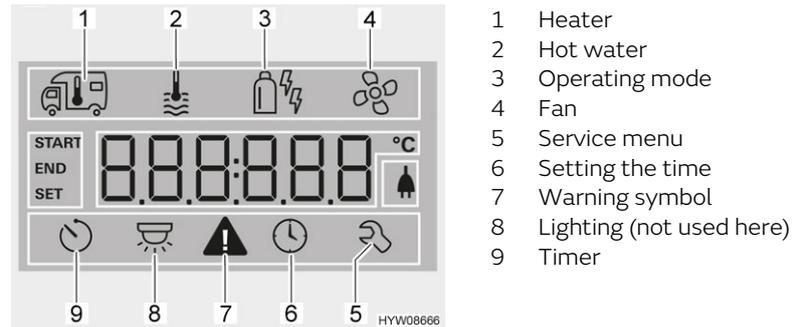

Fig. 213 Display (operating unit)
- Turn rotary push button (Fig. 212,6) until the heater menu symbol (Fig. 213,1) flashes.
- Turn rotary push button (Fig. 212,6) until the hot water menu symbol (Fig. 213,2) flashes.
- Turn rotary push button (Fig. 212,6) until the menu symbol operating mode (Fig. 213,3) flashes.
- Turn rotary push button (Fig. 212,6) until the fan menu symbol (Fig. 213,4) flashes.
- Turn rotary push button (Fig. 212,6) until the timer menu symbol (Fig. 213,9) flashes.
- Press rotary push button. The timer is activated. The timer symbol (Fig. 213,9) flashes when the timer is programmed and active.
The warning symbol (Fig. 213,7) flashes in the event of a warning. The heater continues to operate. In the event of only a temporary fault, the warning symbol goes out automatically.